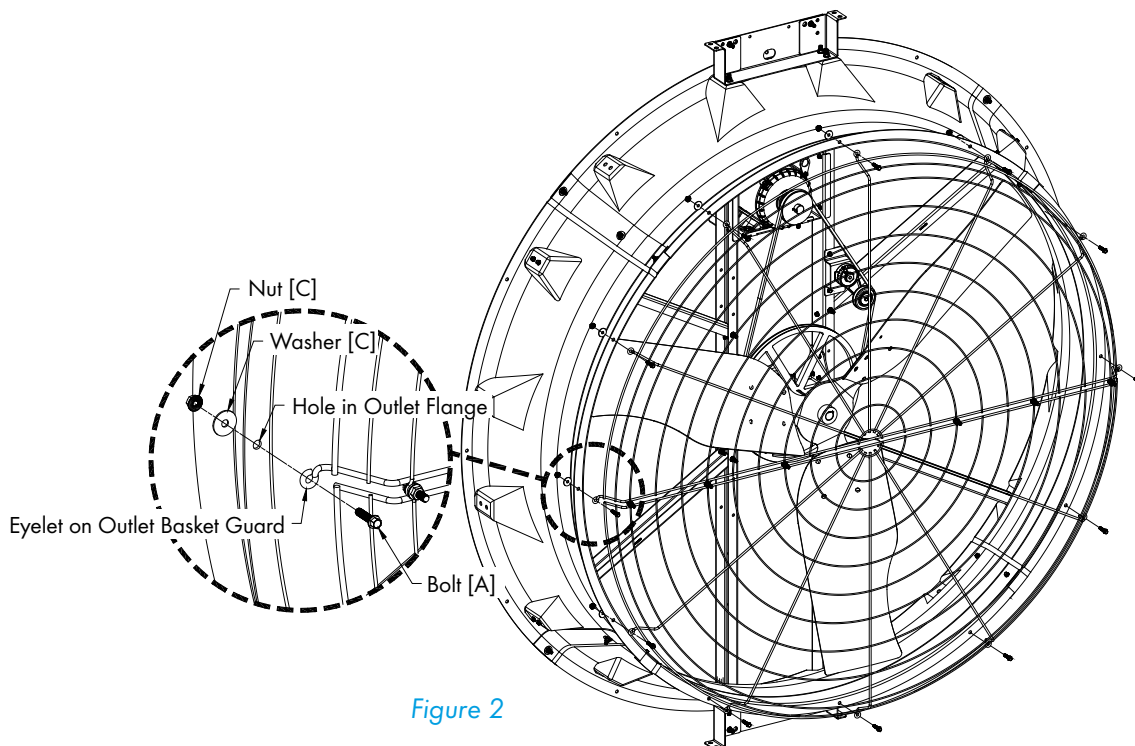

Figure 2
Attach the Outlet Basket Guard to the outlet flange of the CX74 fan using (12) Bolts [A], Washers [C] and Nuts [B]. The bolt head should be on outlet side of the guard and go through the eyelet, then the CX74 outlet flange with Washer [C] and Nut [B] on the rear side of the outlet flange. See Figure 2.